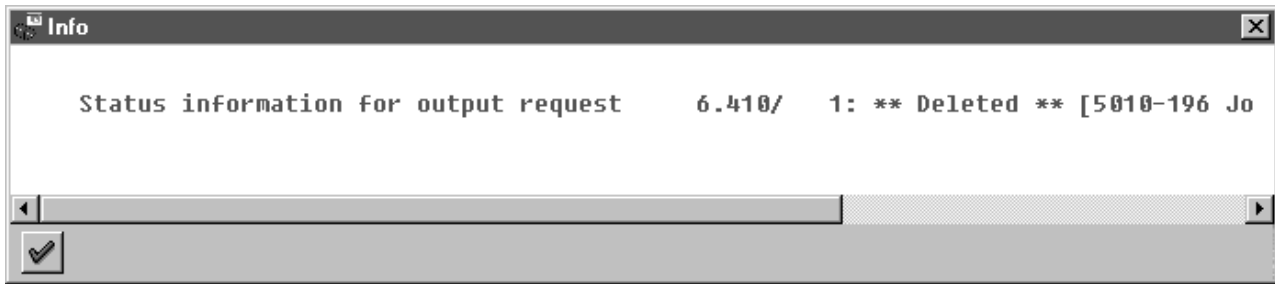
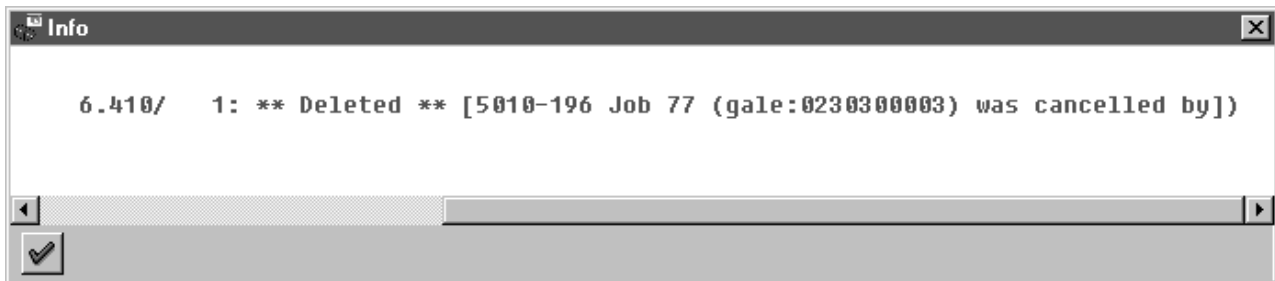

Figure 24. Info window showing cancelled output request: right-most text
Figure 25. Info window showing cancelled output request: left-most text
6. Once you have specified this setting, information from the InfoPrint Manager sent back to your SAP R/3 application server will be delivered in the form of a pop-up window. For example, if an output request was canceled, a pop-up Info window like Figure 24 on page 54 and Figure 25 on page 54 should appear on the output requesters' SAPGUI.